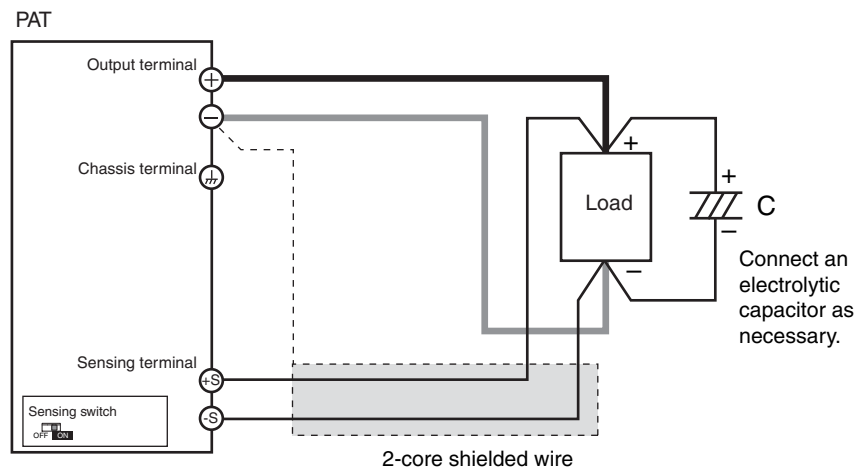

Fig.4-24 Remote sensing connection
- 3 As shown in Fig.4-24, connect the sensing cable between the sensing terminal and the load terminal.